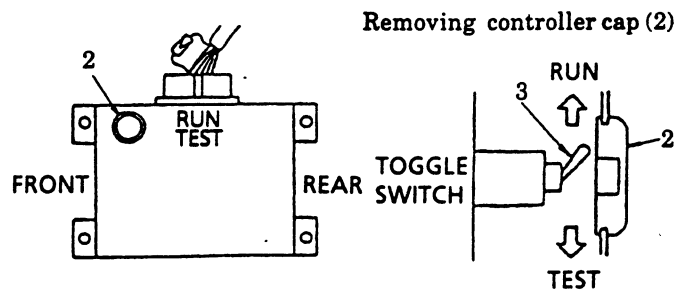

Fig. 7 Direction of pushing the adjust switch in the controller
- !** The power supply turns off four seconds after the engine key is turned to "OFF". If the internal adjusting switch (3 of Fig 7) is moved over when the power is on, adjustment data may be lost. Be careful if the engine key is set to "OFF" while performing mechatronic adjustment.